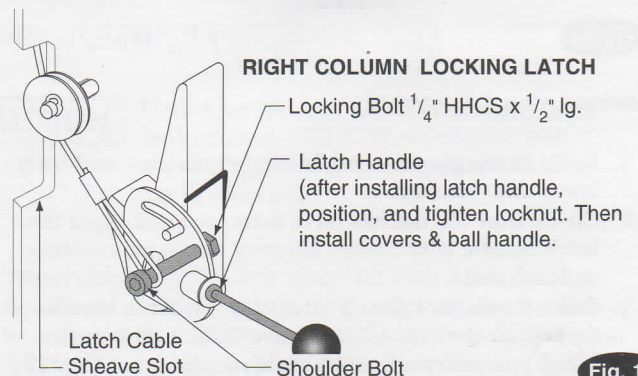
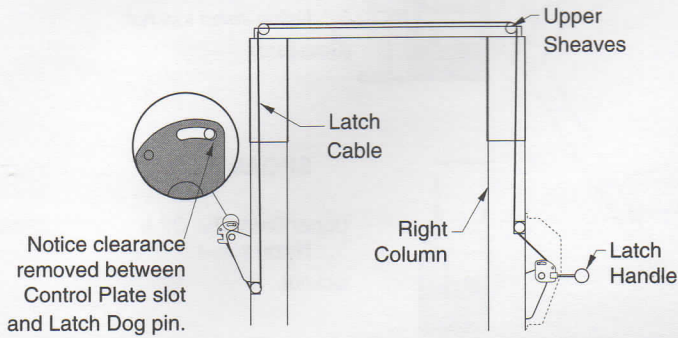
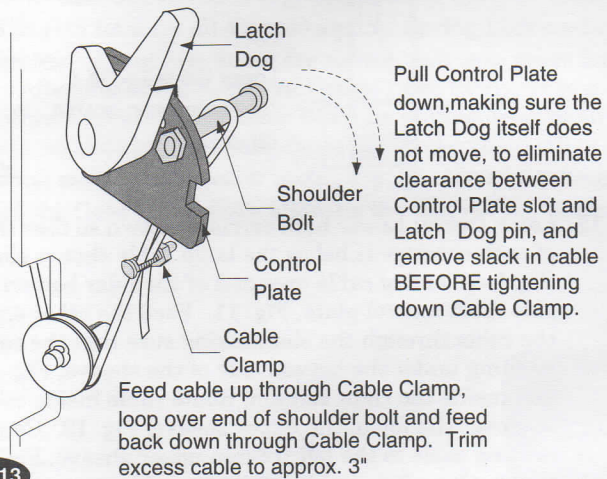
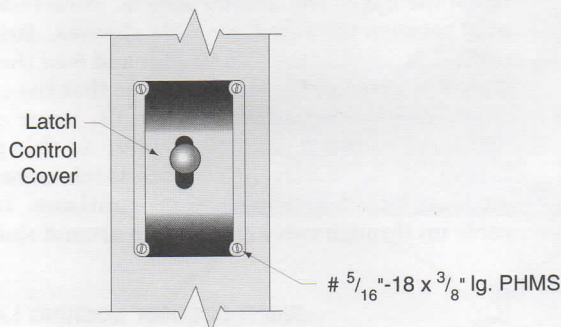

Fig. 11
Fig. 12
Fig. 13
Fig. 14
12. Latch Cable: Lower both carriages down so that the top of each carriage is below the latch cable sheave slot. Slip loop end of cable over end of shoulder bolt on right side latch control plate, Fig. 11. Feed the other end of the cable through the slot making sure that the cable is running under the bottom side of the sheave, Fig. 11, and inside the right column. Route cable inside column and over the top of the upper sheave, Fig. 12. Continue routing cable to the left column upper sheave, Fig. 12 & Fig. 9 (C) on P.4, making sure the cable goes over the top of the upper left column sheave. Note how cable goes between the equalizer cable sheaves. Bring the cable down inside the left column and feed the end of the cable through the sheave slot so that the cable is now back outside the column, Fig. 13. Route cable under the bottom side of the sheave. **At this point you MUST install the right column latch cover Fig.14, and latch Handle Fig.11, then continue.** Insert cable up through cable clamp, loop around shoulder bolt
and back down through the clamp. Next, pull the Control Plate down, Fig. 13, to eliminate any clearance between the Control Plate slot and the Latch Dog pin (making sure the Latch Dog itself does not move), also see Fig.12, and pull cable snug to remove any excessive slack and wrench tighten clamp, Fig. 13. When raising, listen to latches to be sure that both latch dogs fall into latch slots. If they do not, Loosen clamp and adjust tension as necessary. When latches are adjusted to desired tension, hold clamp with pliers and tighten clamp securely. See Fig.14 & "Locking Latch Adjustments" below for further adjustment procedures. Recheck, make sure cable is properly routed through sheaves. Then install left latch cover Fig. 14.
4. Make necessary adjustments if required, see Fig. 13, recheck latch function.